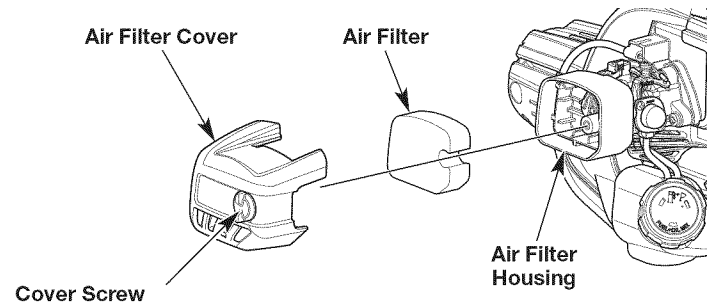

Fig. 16
1. Open the air filter cover by unscrewing the cover screw (Fig. 16).
2. Remove the air filter from inside the air filter housing (Fig. 16).